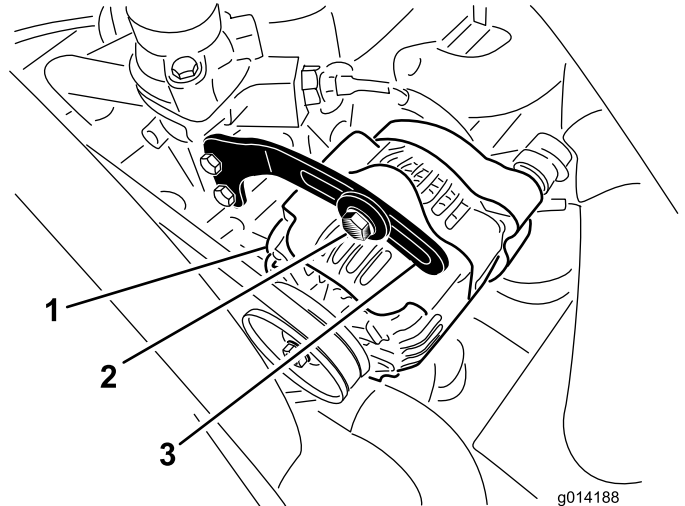

Figure 57
2. Check the tension of the alternator belt by depressing it (Figure 57) midway between the alternator and the crankshaft pulleys with 10 kg (22 lb) of force.
3. Loosen the bolt securing the brace to the alternator (Figure 57), and the alternator pivot bolt.